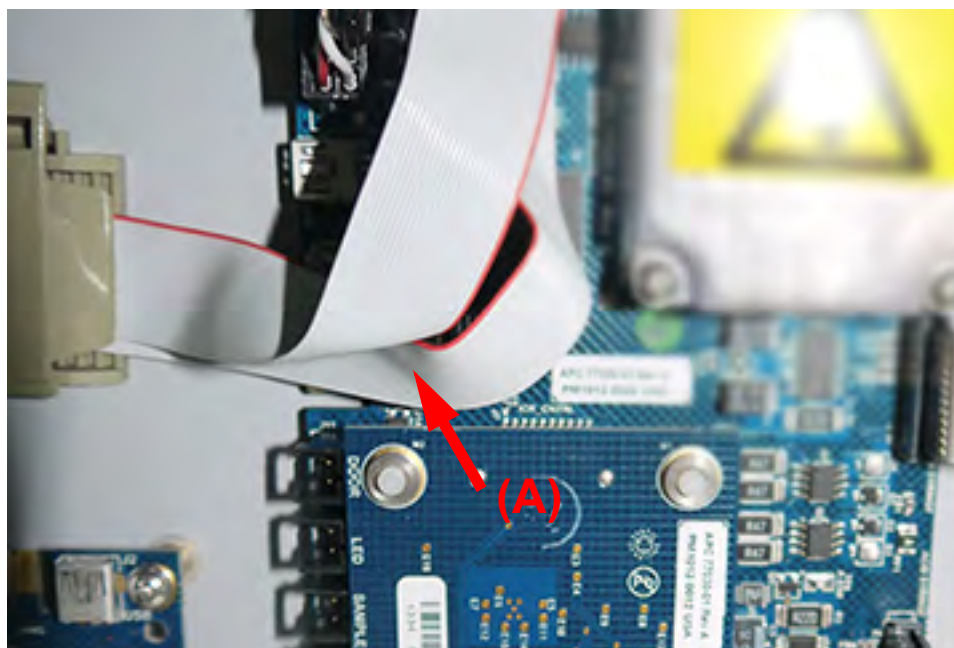
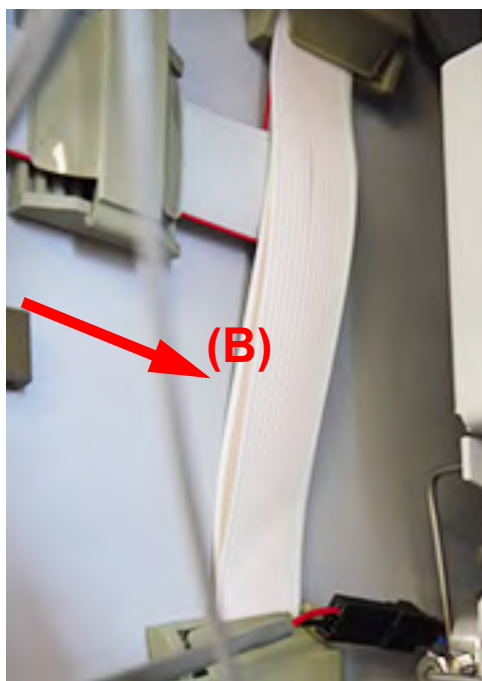

Figure 74: Electronics on Door
Figure 75: Jumper Cable Connection for ICR Pump
- Remove the panel off the back of the door to locate and identify the ICR pump cable connection (A), (Figure 74). After locating the connection, follow the cable back inside the Analyzer and disconnect the cable at the jumper cable (B), (Figure 75).